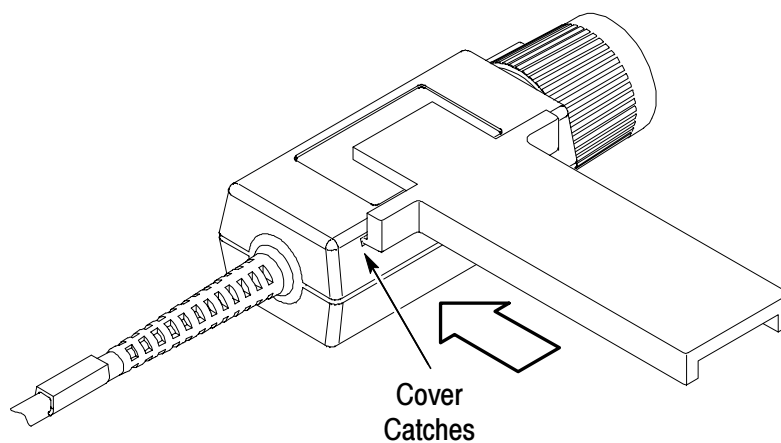

Figure 9: Removing the Compensation Box Covers
1. Press the optional release tool pins into the compensation box cover catches and gently lift the cover off a small distance. Refer to Figure 9.